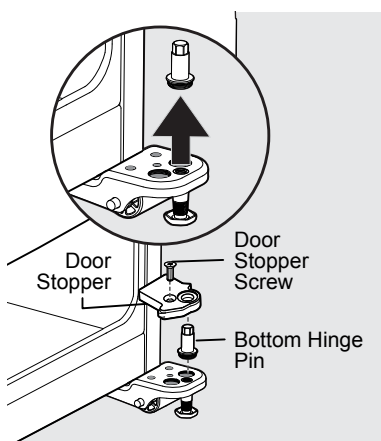

Figure 4
- Remove the screw from the door stopper with a Phillips screwdriver (see Figure 4).
- Unscrew the bottom hinge pin from the right hand position using an adjustable wrench (see Figure 4).